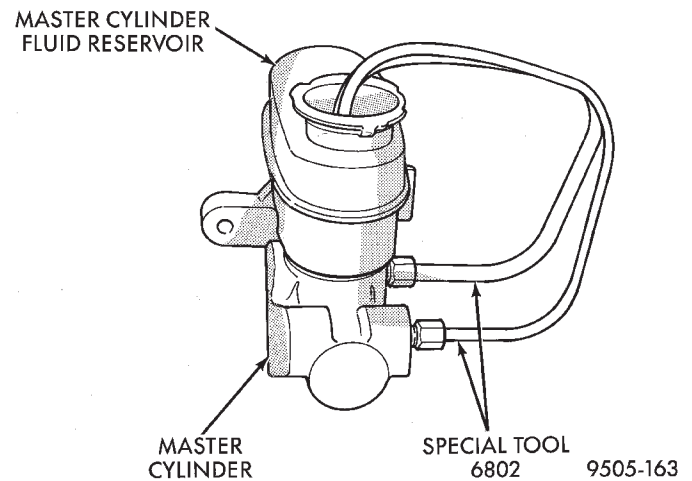
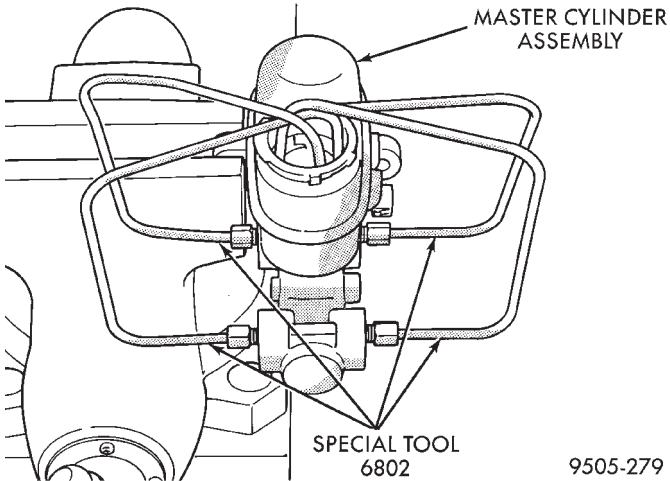

Fig. 47 Bleeding Tubes Attached to Master Cylinder With ABS
Fig. 48 Bleeding Tubes Attached to Master Cylinder With Out ABS
(1) Clamp the master cylinder in a vise. Attach Bleeding Tubes, Special Tool 6802 to the master cylinder outlet ports (Fig. 47) or (Fig. 48). Position tubes so outlets of Bleeding Tubes will be below surface of brake fluid when reservoir is filled to proper level.
- (3) Connect brake tubes to master cylinder primary and secondary ports (Fig. 47) or (Fig. 48). Then tighten the tube nuts to a torque of 17 N·m (145 in. lbs.).